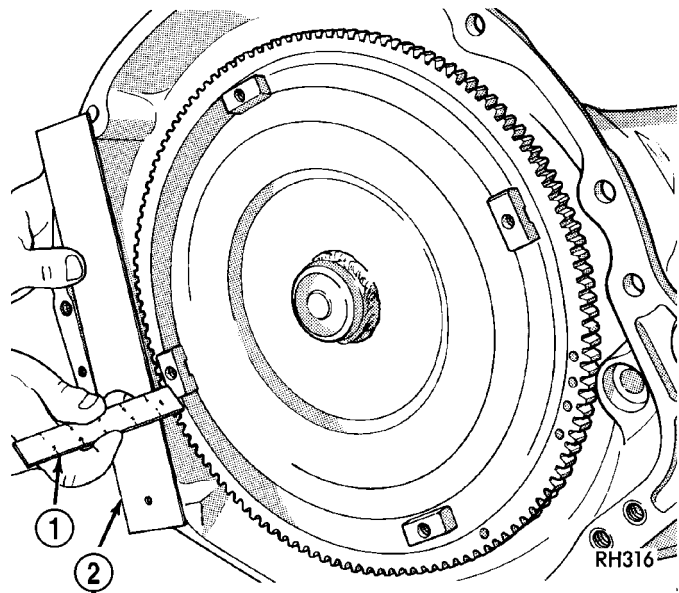

Fig. 305 Checking Torque Converter Seating
(3) Align torque converter to oil pump seal opening.
(4) Insert torque converter hub into oil pump.
(5) While pushing torque converter inward, rotate converter until converter is fully seated in the oil pump gears.
(6) Check converter seating with a scale and straightedge (Fig. 305). Surface of converter lugs should be 1/2 in. to rear of straightedge when converter is fully seated.
(7) If necessary, temporarily secure converter with C-clamp attached to the converter housing.
(8) Install the transmission in the vehicle. (Refer to 21 - TRANSMISSION/TRANSAXLE/AUTOMATIC - 41TE - INSTALLATION)
(9) Fill the transmission with the recommended fluid. (Refer to 21 - TRANSMISSION/TRANSAXLE/AUTOMATIC - 41TE/FLUID - STANDARD PROCEDURE)